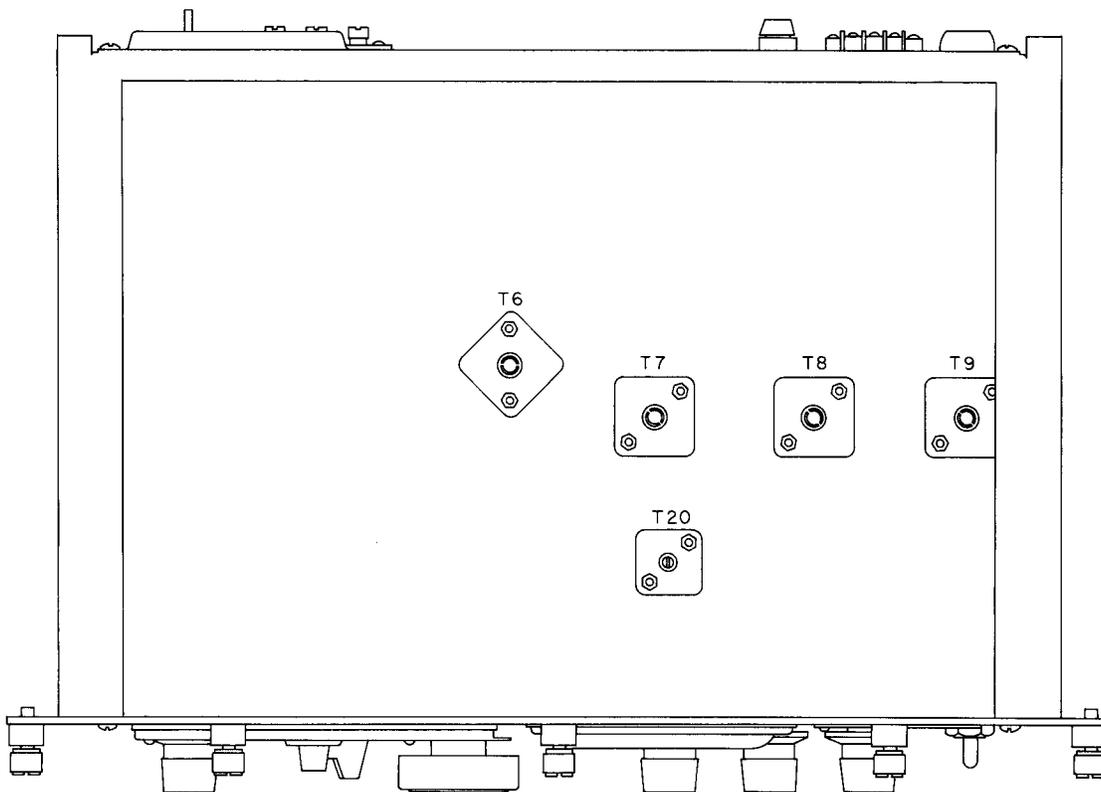

Figure 7-12. I-f Alignment Points
(1) **GENERAL.**—The receiver has been carefully aligned at the factory and should not require realignment unless its sensitivity is poor, off-frequency calibration of the dial exists or service work on one or more of its r-f and i-f amplifier stages has been done. Alignment should only be attempted by experienced personnel as peak performance is obtained by careful and correct alignment. See figures 7-12 and 7-13 for the location of the i-f and r-f alignment points.